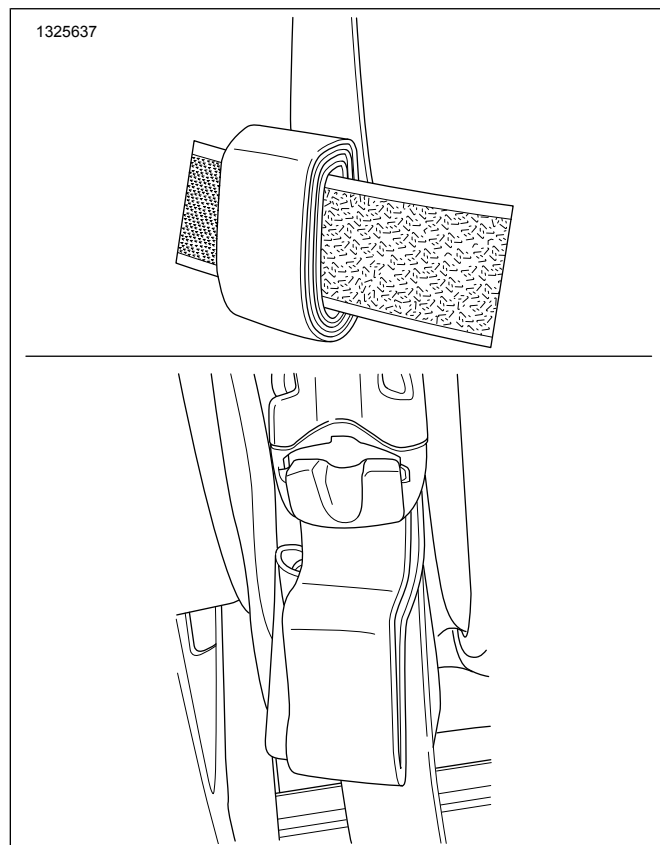

Figure 5. Excess Strap Material
7. See Figure 5. Roll up and secure any excess strap material using hook-and-loop tabs to prevent straps from contacting the rear wheel or scratching or scuffing painted surfaces.